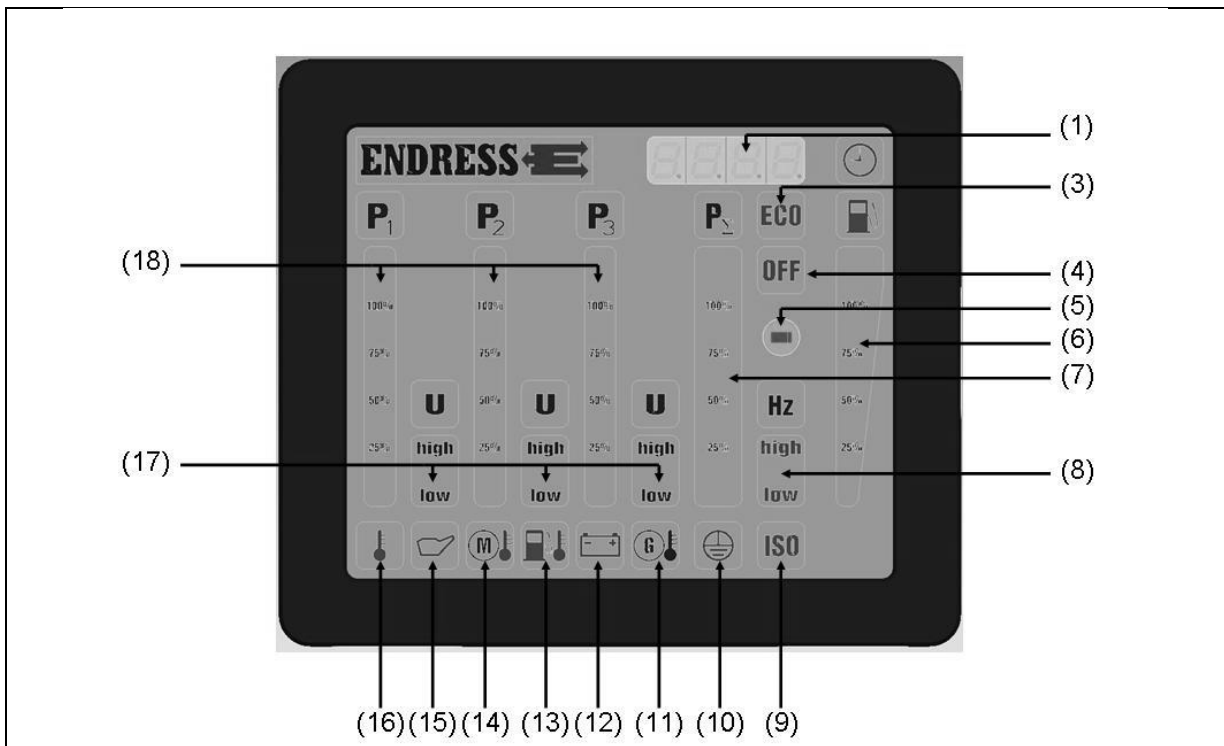

Figure 4-5: Multi-functional display
- EMERGENCY-STOP button:** If the "OFF" symbol glows red (see Figure 4-5-(4)) and the buzzer sounds, the EMERGENCY OFF button has been pressed. The buzzer can be acknowledged using the acknowledgement button.
- Frequency:** If the display glows green (see Figure 4-5-(8)), the frequency is within the correct range (47.5–52.5 Hz).
L1, L2 & L3 phases: The single L1 to L3 phases (see *Figure 4-5-(18)*) are displayed separately:
Voltage (U) (see *Figure 4-5-(17)*):
Load (P) (see *Figure 4-5-(18)*):
- ✓ The displayed symbol (see Figure 4-5-(8)) indicates the result:
- ✓ The displayed symbol (see Figure 4-5-(8)) and the position of the circuit breaker indicate the result: